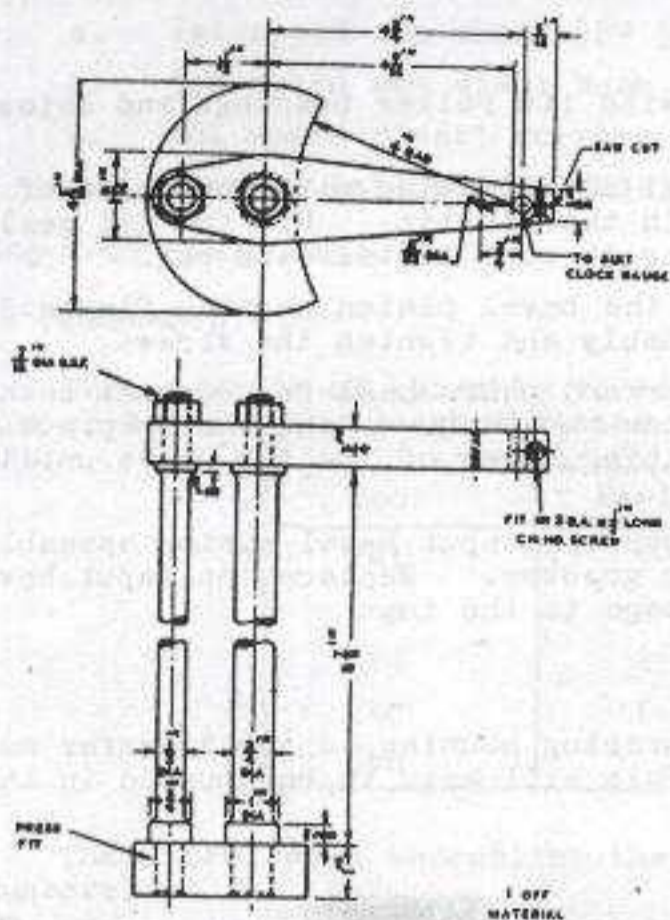
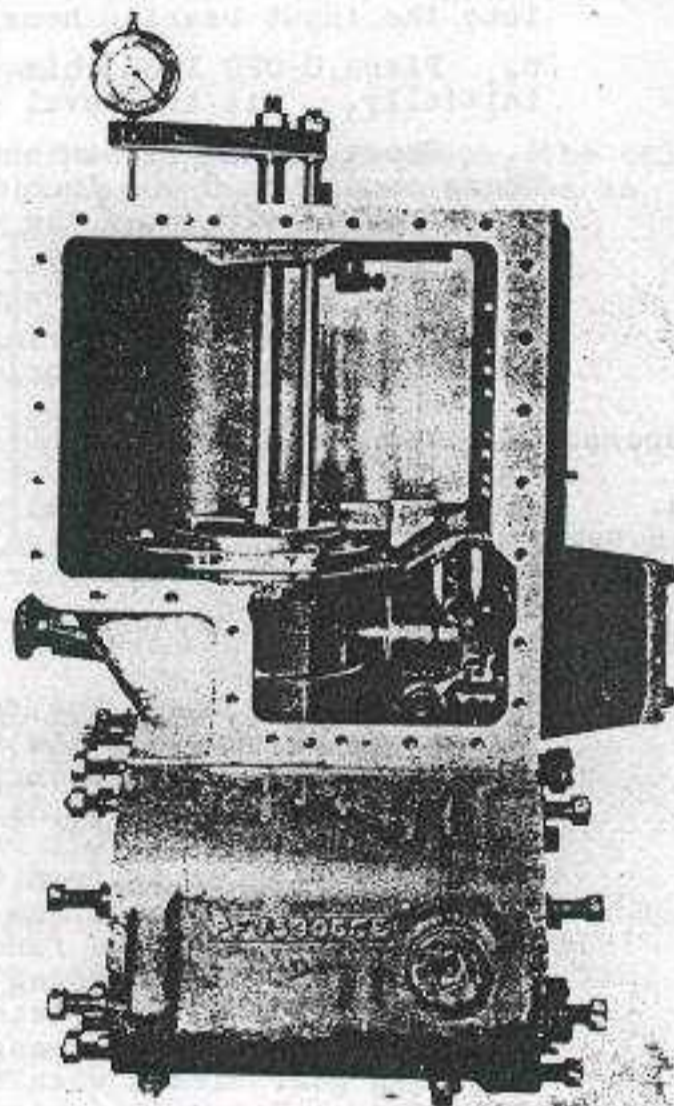

FIG 13 - DIAL GAUGE STAND - FOR CHECKING CLEARANCE BETWEEN RUNNING GEAR AND GEARBOX CASING (LOCAL MANUFACTURE)
FIG 14 - GEARBOX - CHECKING DEPTH OF GEARCASE TO RUNNING GEAR (SEE FIG 15)
- a. Stand the gearbox casing on its rear end and ensure that the input bevel pinion bearing housing is clean. Mount a clock gauge or micrometer head on the stand (manufactured locally, fig 13) and take a reading on the front bolting face of the casing (see fig 14). Set the clock gauge to zero.